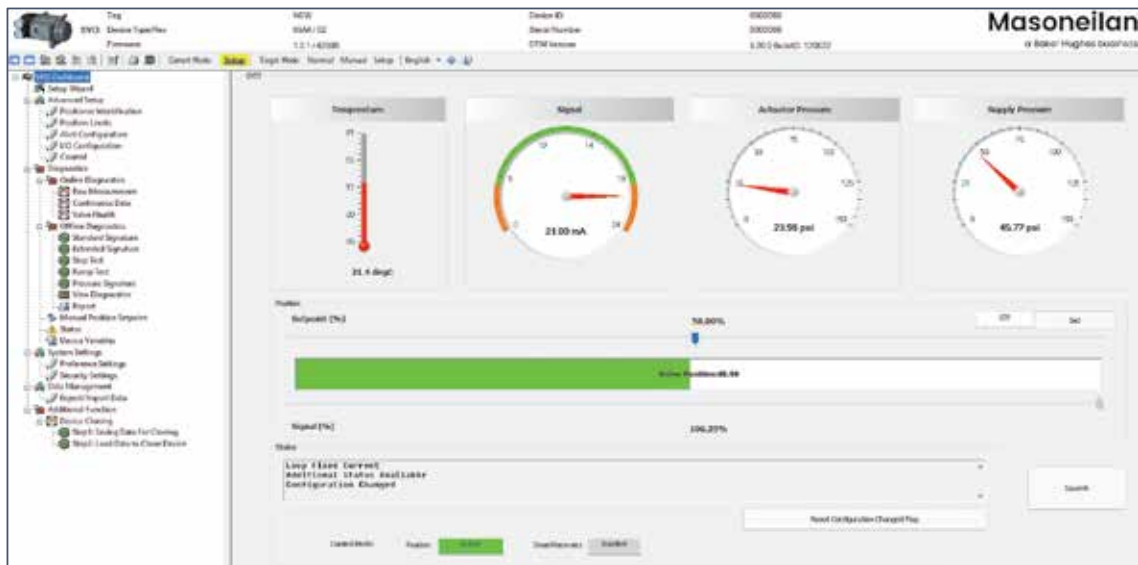

Figure 107 ValVue3 Main Screen
1. Open ValVue3 and the SVI3 DTM main screen appears (Figure 107).
1. Open ValVue3 and the main screen appears (Figure 107).